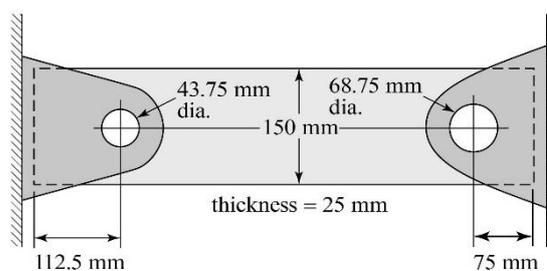

Fig. 2
3. The link shown in Fig. 2 is subjected to a completely reversing load of 90,000 N. Find the maximum value of stress at each hole.